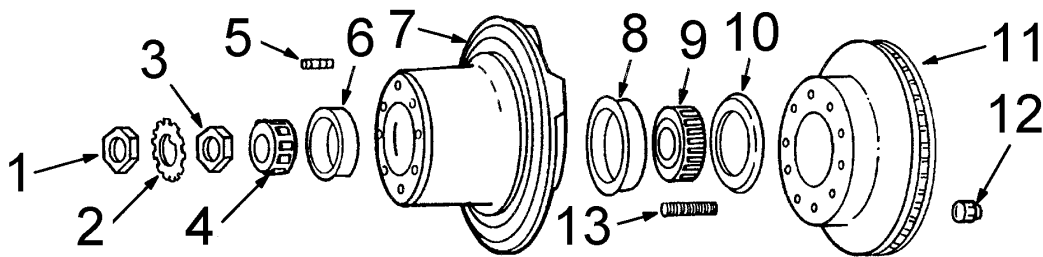
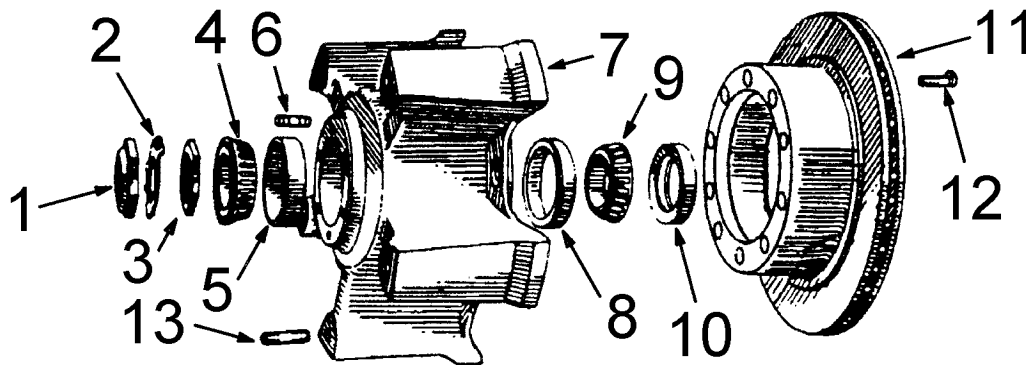

Figure 32 Remove Rear Rotor And Wheel Hub Assembly
Figure 33 Remove Rear Rotor And Wheel Hub Assembly
6. On rear axles, for removal of rotor and wheel hub assembly (Items 11 and 7, Figure 32) (See Figure 32, page 36) and (Items 11 and 7, Figure 33) (See Figure 33, page 36), refer to GROUP 14 — REAR AXLE in the Master Service Manual for proper rotor and wheel hub assembly removal. Place rotor and wheel hub assembly along with bearings and related components on a clean, dry surface out of the way and save for reinstallation.
8. Separate rear rotor from wheel hub (Items 11 and 7, Figure 32 (See Figure 32, page 36) and Figure 33) (See Figure 33, page 36) by removing retaining nuts (Item 12, Figure 32) (See Figure 32, page 36) or retaining bolts, washers and nuts (Item 12, Figure 33) (See Figure 33, page 36) securing them together.